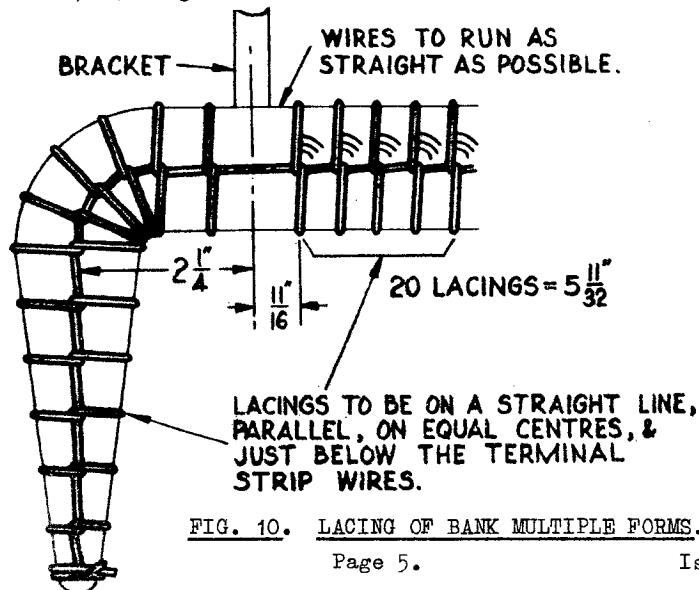

FIG. 10. LACING OF BANK MULTIPLE FORMS.
3.2 Bank Multiple Form. The lacing of bank multiple forms is shown in Fig. 10.